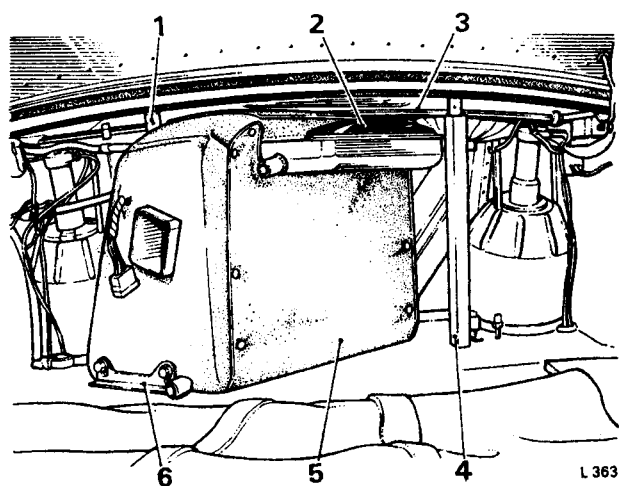

FIG. C36 SHOWING THE WOODEN BLOCK IN POSITION
15. Insert a block of wood, approximately 19 in. (48 cm.) long and 3 in. \times 2 in. (8 cm. \times 5 cm.) thick, between the floor of the luggage compartment and the lid hinge rods; position the block as shown in Figure C36.